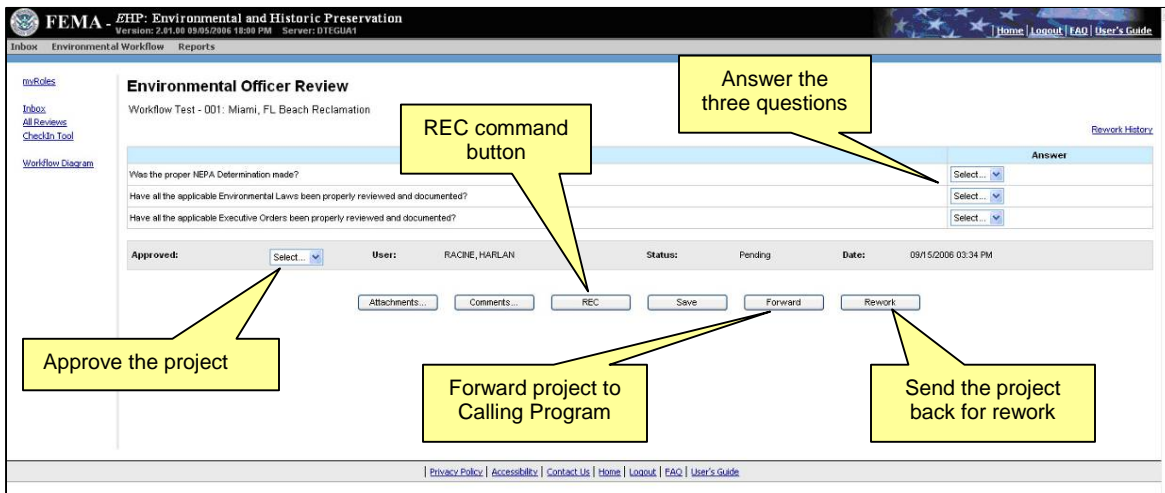

Figure 4.1: EO Review
- Answer the three questions regarding the quality of the Technical Reviews (Figure 4.1).
To rework a project, navigate to the *Rework Request* screen by selecting the **Rework** command button on the Environmental Officer Review screen (Figure 4.1).